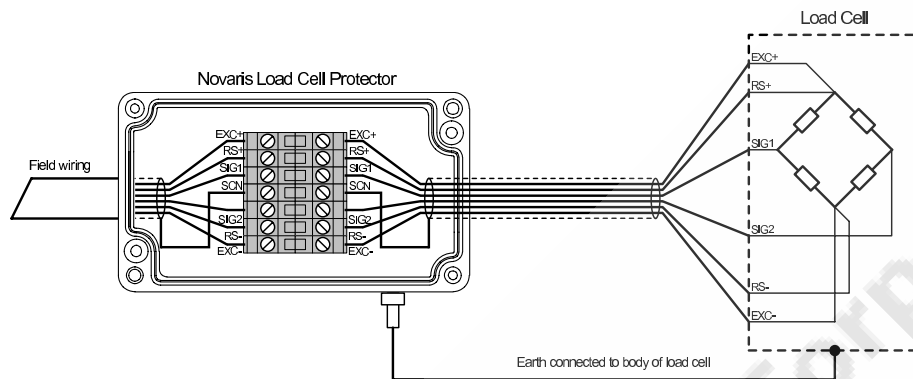

Figure 3: Installation of load cell protector
3.4 **Wiring:** Load cell protectors are connected in series with the equipment (Figure 3).